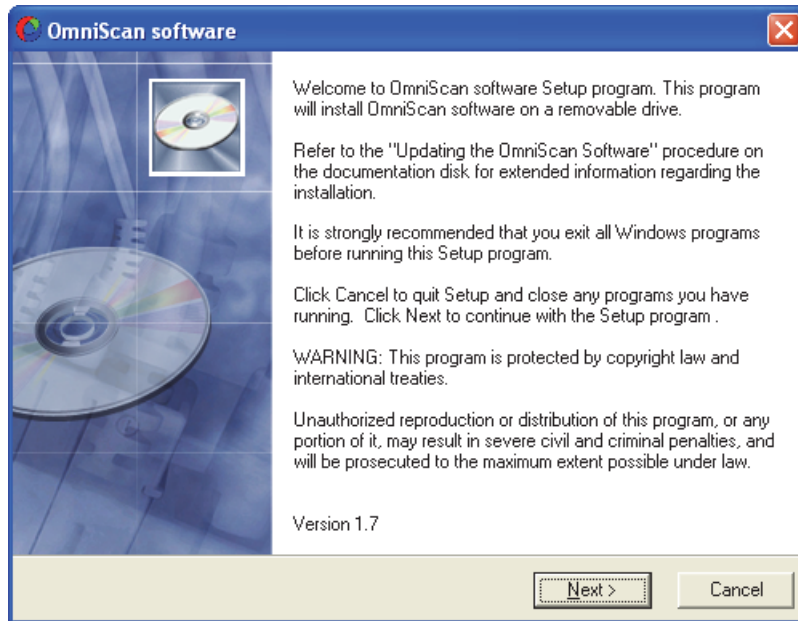

Figure 4-13 The OmniScan software welcome dialog box
3. In the first screen of the **OmniScan software** setup program, click **Next** (see Figure 4-13 on page 87).